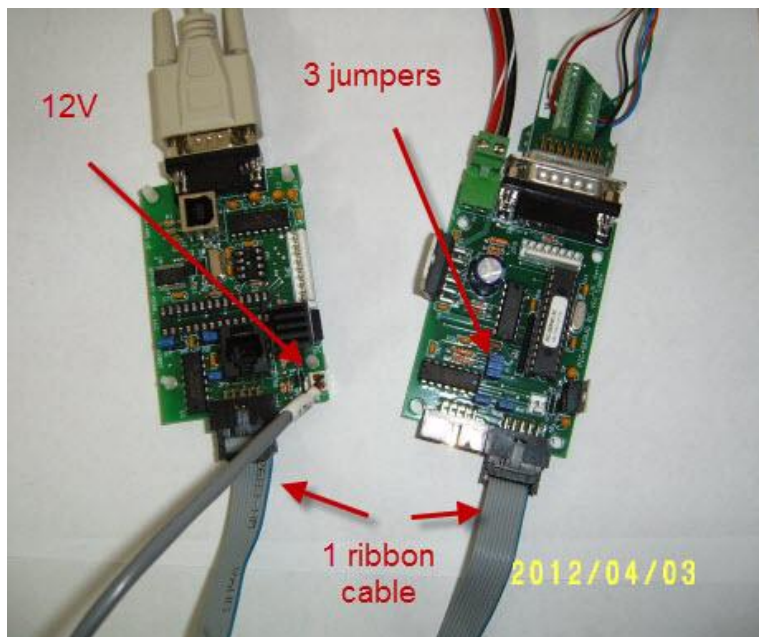

Fig 5.
8. The servo drive cards and cabling now need to be checked one card at a time. Push the Emergency stop button in then connect just one of the drive cards to the communication card via the ribbon cable (fig 5) make sure the 3 jumpers are on the card you are testing and that 12V is connected to at least one of the cards.
11. If there are no errors press Reset Network, press the emergency stop button in and connect the second servo drive card as per Fig 5 and repeat steps 9 and 10.